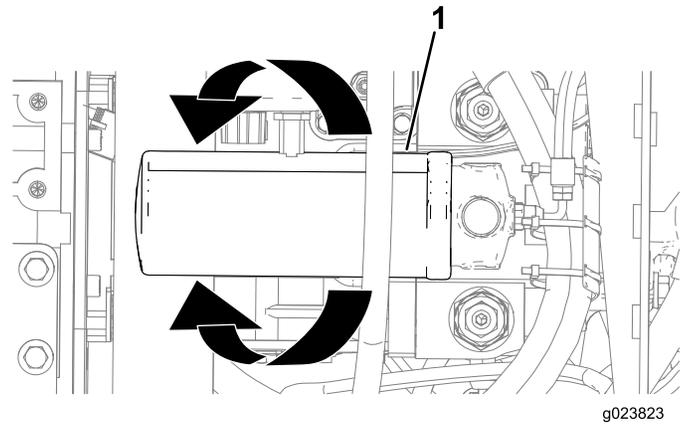

Figure 118
3. Align a drain pan or several rags under the hydrostatic-charge filter (Figure 118).
4. Rotate the hydrostatic-charge filter counterclockwise and remove the filter (Figure 118).
6. Align the hydrostatic-charge filter to where it seats, and rotate it clockwise until the seal of the filter contacts the adapter (Figure 118).